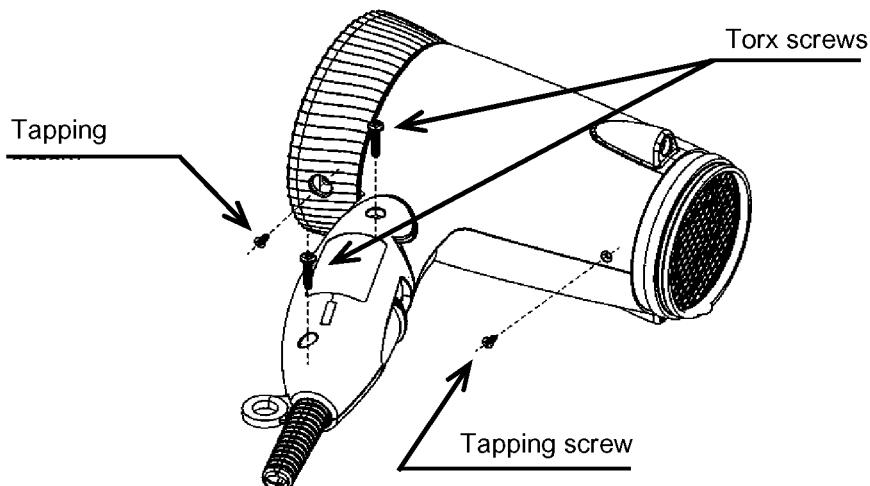

Figure 5
2. Remove 2 tapping screws by Plus Driver and 2 torx screws by IEC driver as figure 5.